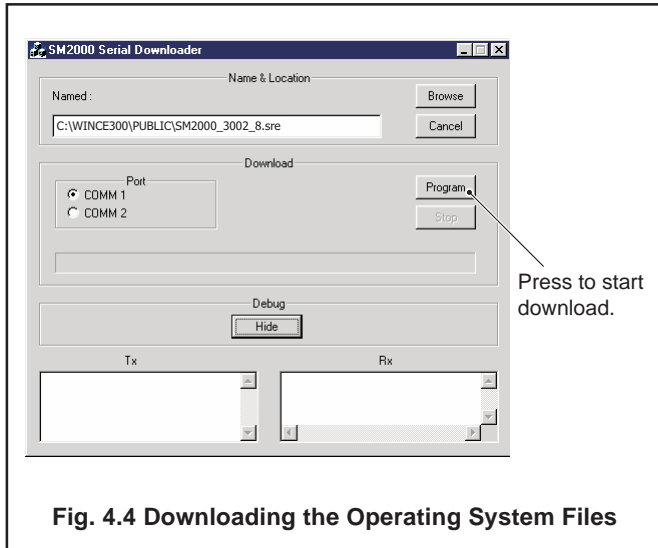

Fig. 4.4 Downloading the Operating System Files
10) Select the '.sre' file to download (e.g. SM2000_3002_8.sre) – see Fig. 4.4.
11) Restore the power supply to the instrument and start the download of the new software by clicking on the 'Program' button on the SM2000 Serial Downloader screen – see Fig. 4.4.